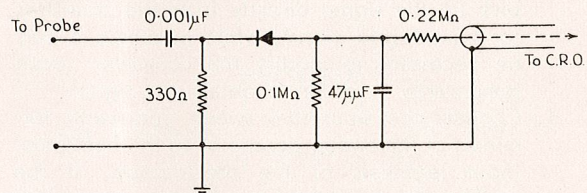

Fig. 7. Crystal rectifier circuit.
3. Connect the i-f video output of the video amplifier through a crystal rectifier circuit to the vertical input terminals of an oscilloscope. A suggested crystal rectifier circuit is illustrated in Fig. 7.